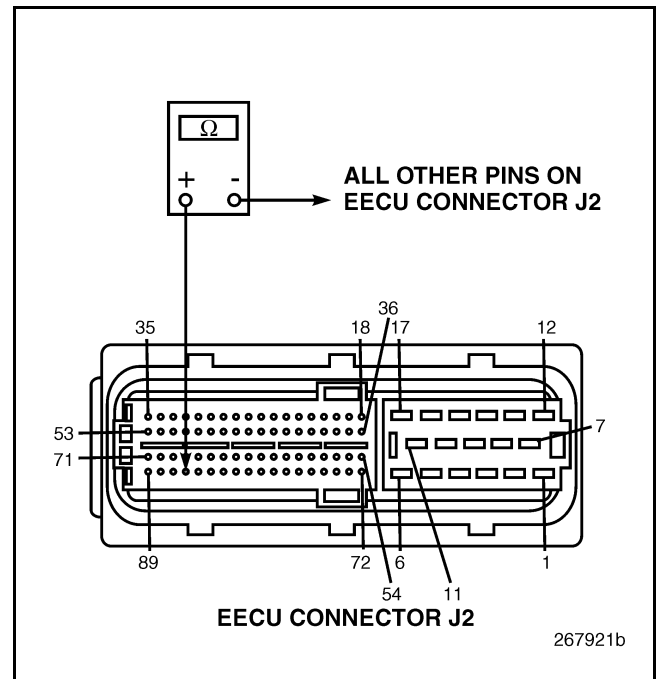

Figure 162
4. Check for continuity between EECU harness connector J2 pin 86 and all other pins on EECU connector J2 (see Figure 162).